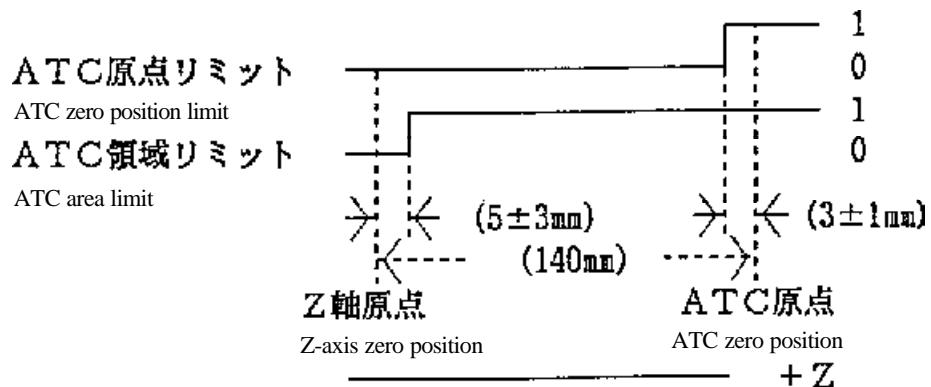

Fig.1 Normal motion
If it is working properly, limit switch moves as shown in the figure 1.
If not working as shown in the fig.1, ATC area limit switch is damaged or dislocated, or the cable is disconnected.
- (2) For the cause 3, check if the value of the bit F of input 9 (Refer to the fig.1) on the <I/O> screen.